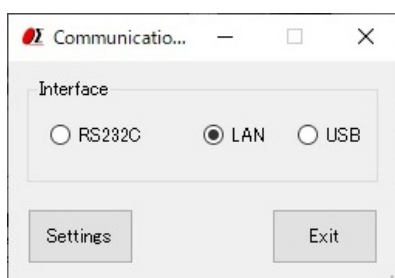

Figure 3-5 : Communication
- ⑤ Chooses LAN, and choose setting.(Figure 3-5)